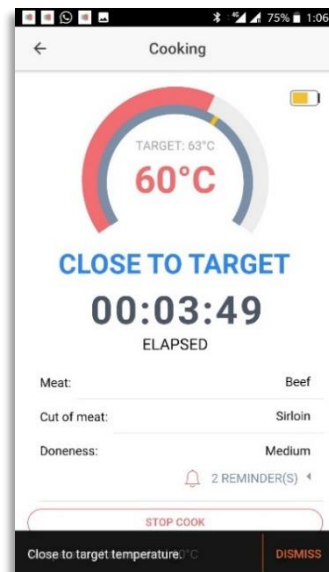

Figure 8. Close to Target
9. When the temperature is close to the target, you will receive an alert and the corresponding message will be shown in the cooking screen as shown in Figure 8. Please start get close to the oven.